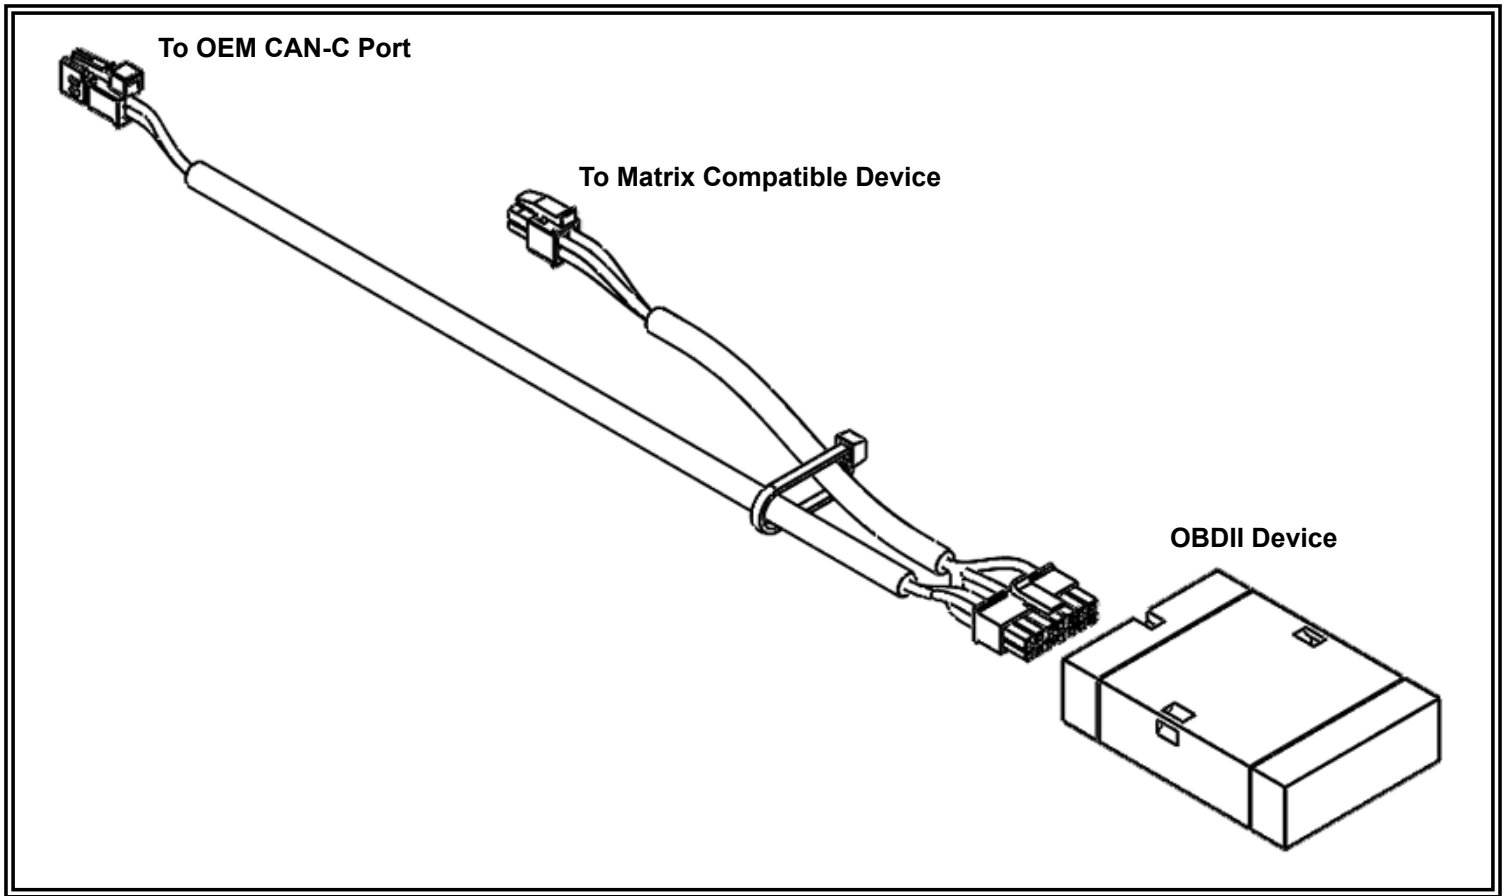

Figure 3
Step 1. Route the remaining, unused OBDII Harness connectors to the location where the OBDII Device will be mounted. The OBDII Device must be mounted near another Matrix® compatible device with a 4 Pin AUX connector. Confirm that the cable length is sufficient to reach both required locations. See FIGURE 3 for further details.